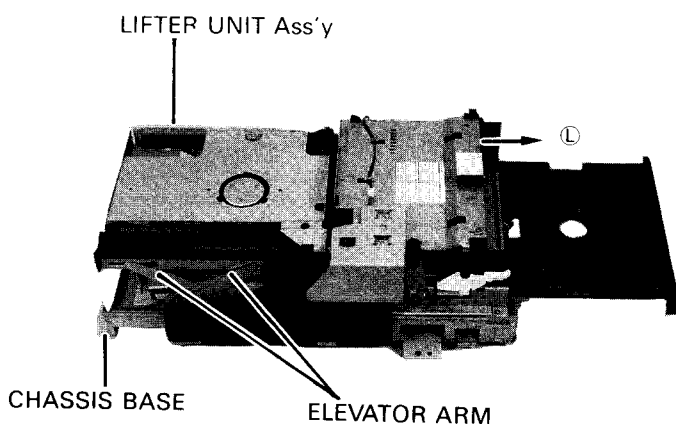

Fig.3
- 1) Remove the screw (K), and remove the feed nut support.
- 2) Remove the screw (L).
6. Removing the magazine holder (Fig.3)
7. Removing the LIFTER UNIT Ass'y (Fig.3)